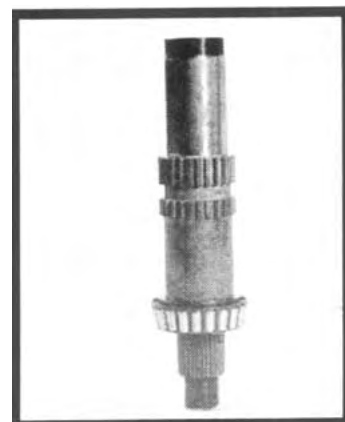

Figure 6.15
- Heat and install the front bearing cone assembly against the shaft shoulder. After the bearing cools to room temperature, position the shaft as shown in Figure 6.15.